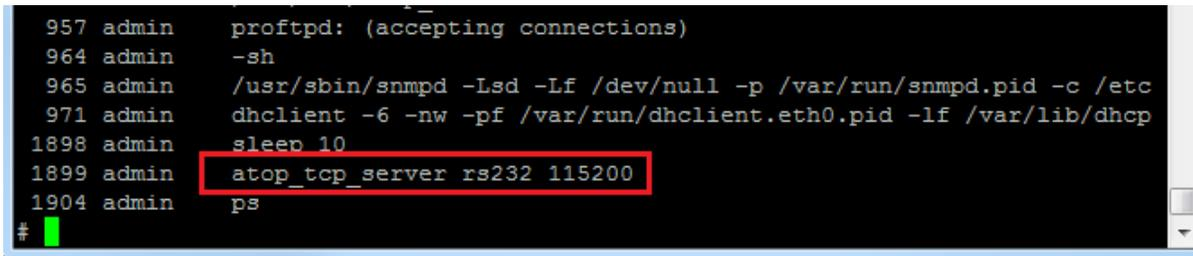

Figure 5.2 Process execution on SE5904D, example
- 2) Type "ps -ef" from super terminal program to check if atop_tcp_server is executed as **Figure 5.2**